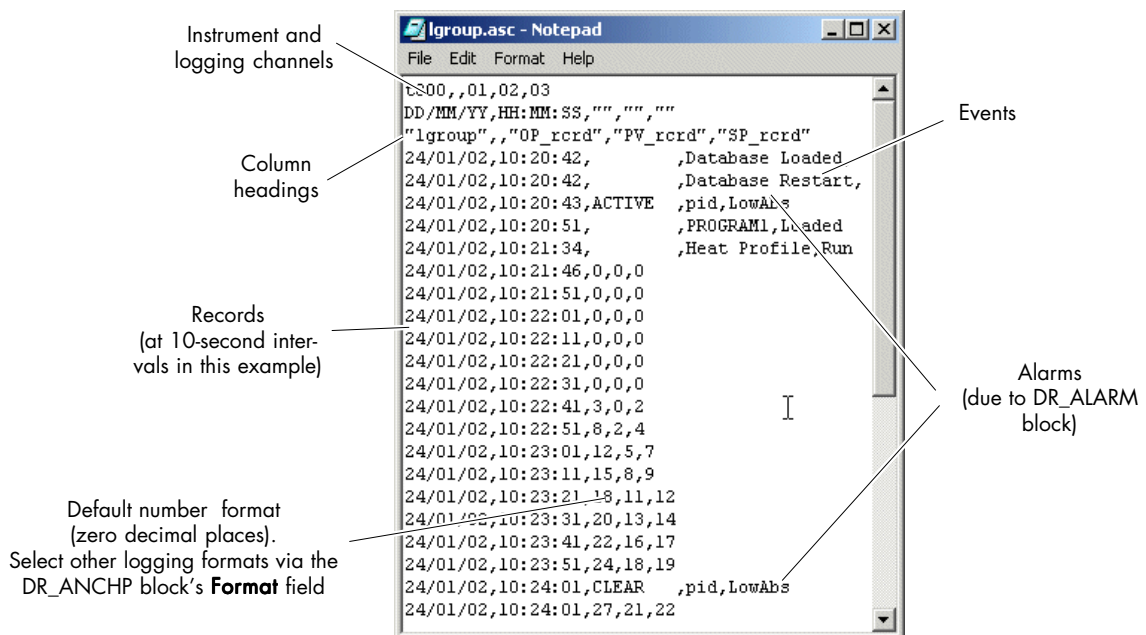

Figure 4-3b Example log file (ASCII, Text, Date Time format)
- 10 While data logging continues the data is held in the internal buffer store. The exact amount depends on how much data is being logged, in this case several minutes of data will be buffered. Insert the storage device into your Computer and examine the contents so far. You should see a single log file, called, e.g. **lggroup.asc**. Open the file in a text editor such as 'Notepad' or as a .csv file in a spreadsheet (e.g. 'Excel'). Figure 4-3b shows the sort of contents you should see.